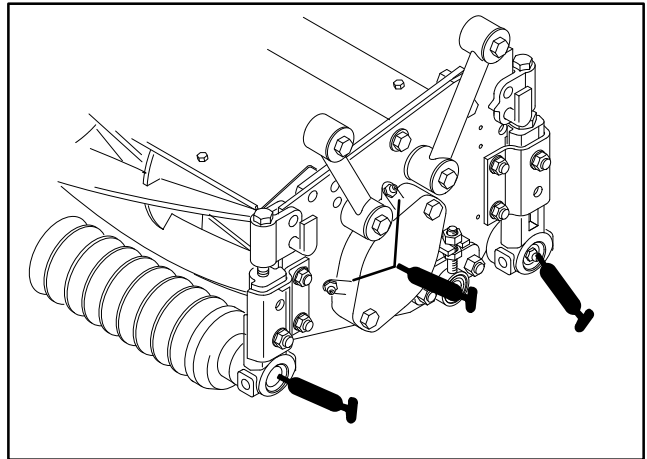
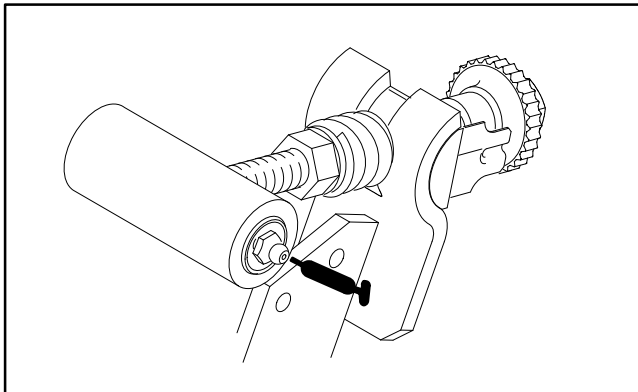

Figure 7
Figure 6
1. The grease fitting locations and quantities are: Bedknife adjuster (2), every 50 hours (Fig. 6); Reel bearings (2) and front and rear rollers (2 ea.) (Fig. 7).